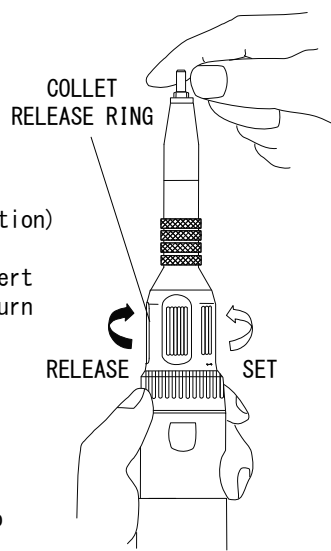

Fig. 2
- 1) Hold the motor and turn the collet release ring to the “RELEASE” direction as shown Fig.2 until you hear a “Click” and it will not return. (Collet chuck is in the open position)